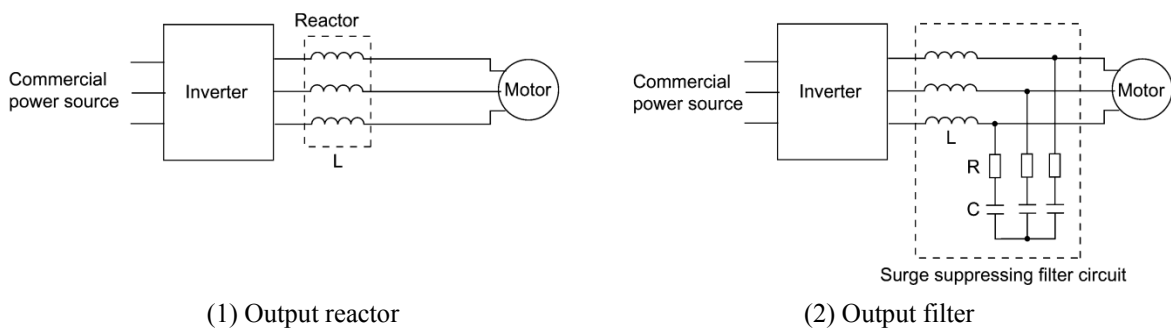

Figure B.3 Method to Suppress Surge Voltage
(1) Output reactor
If wiring length is relatively short, the surge voltages can be suppressed by reducing the voltage rise time (dv/dt) with the installation of an AC reactor on the output side of the inverter. (Refer to Figure B.3 (1).)
(2) Output filter
Installing a filter on the output side of the inverter allows a peak value of the motor terminal voltage to be reduced. (Refer to Figure B.3 (2).)